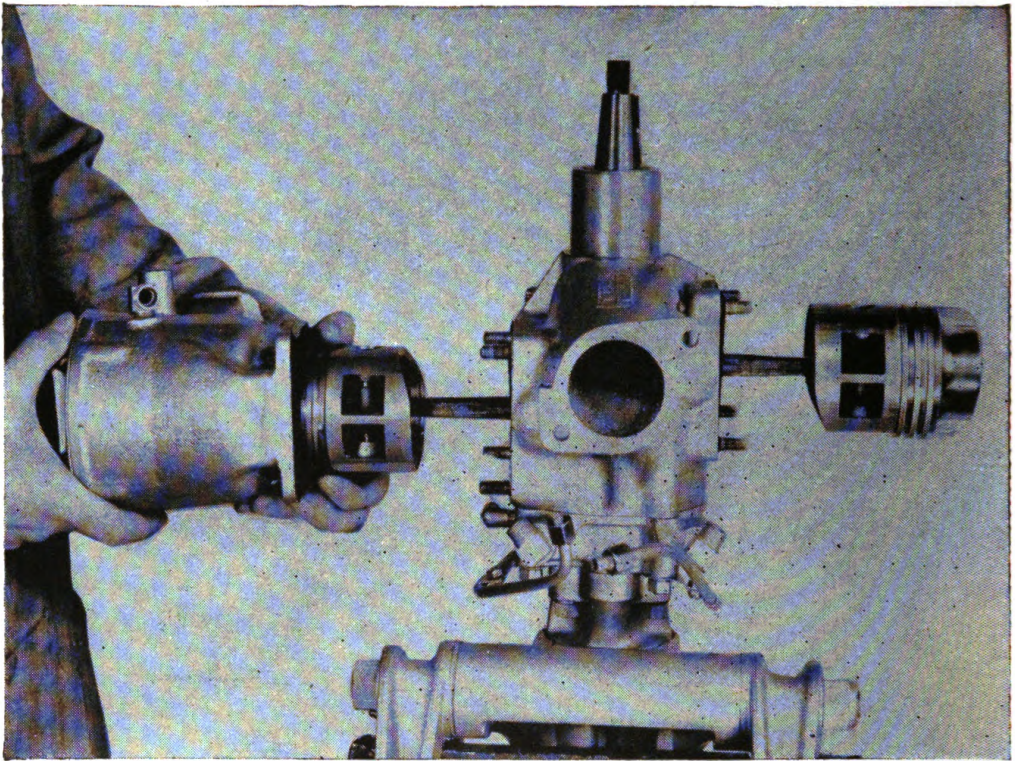
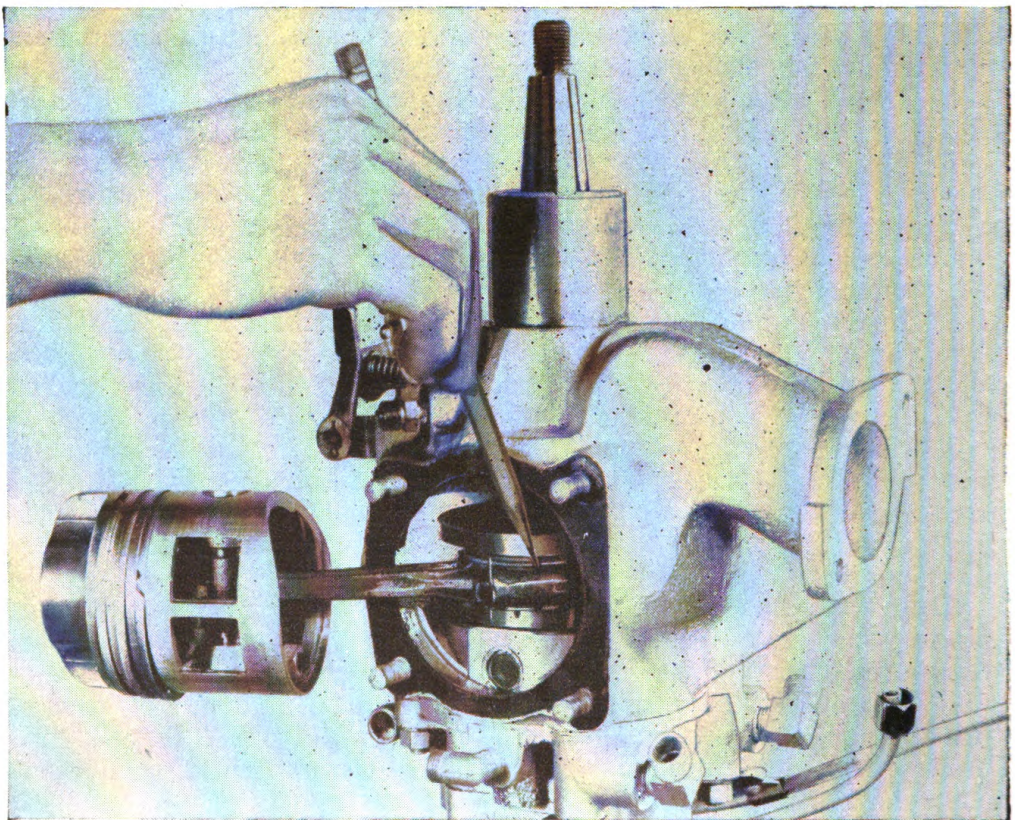
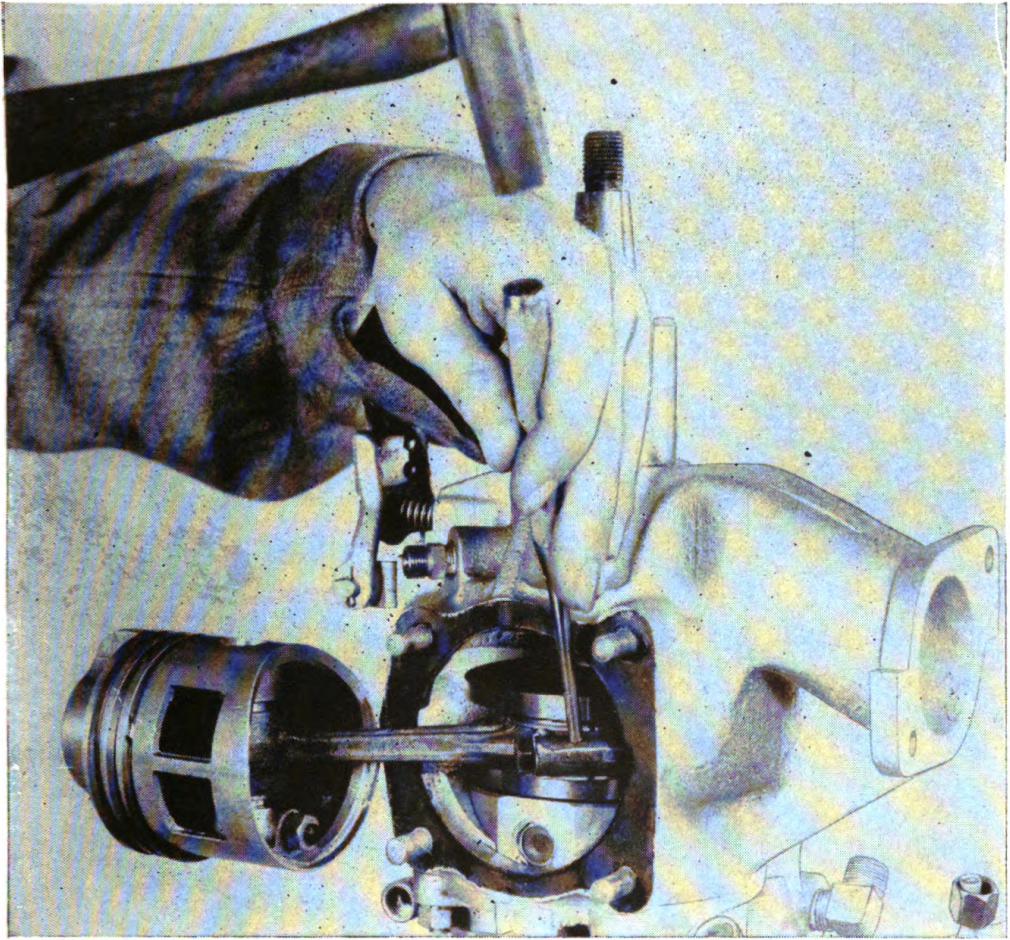

Figure 110. Attaching cylinders to crankcase.
Figure 111. Testing rod and cap alignment to determine that surfaces are flush.
Figure 112. Aligning rod and cap by forcing high side down until flush with other side.
(7) Assemble roller bearings and retainers to crankpins. Note two free rollers, one fitting on each side of the crankpin and between ends of retainers.
(8) Note large ports in wall of piston and punch marks on connecting rod and cap. When attaching connecting rod and piston assembly to crankpins, ports in piston should be directed towards carburetor side of crankcase. (See fig. 110.) Connecting rod and cap should be assembled with both marks on same side.
(9) Turn crankshaft to bring crankpins to outermost position. Slip connecting-rod cap back of crankpin and around rollers. Place piston and rod assembly in position. Assemble lock plates and screws, making sure both marks are on same side. Tighten connecting-rod screws. Bend two lugs protruding opposite each other on each lock plate down over connecting rod.
(10) (a) Connecting rod and cap must be aligned properly. That is, cap must line up perfectly with rod, and both sides must be flush. This is done by turning roller assembly so gap between retainers comes to rest over junction of cap and rod. By sliding a pencil over junction, as shown in figure 111, it is simple to determine whether or not surfaces are flush. If one side or other is high, drive high side down until flush with other as shown in figure 112. Check again with pencil. When
(b) To attach cylinders, be sure cylinder walls and pistons are clean. Spread film of oil on cylinder walls and skirt of piston. Install cylinder-base gasket over studs on crankcase. It is not necessary to cement this gasket. Compress piston rings with fingers as shown in figure 110. Slide cylinder over piston and up to crankcase. To mount cylinder securely, attach necessary washers and nuts and tighten. (See fig. 101.)